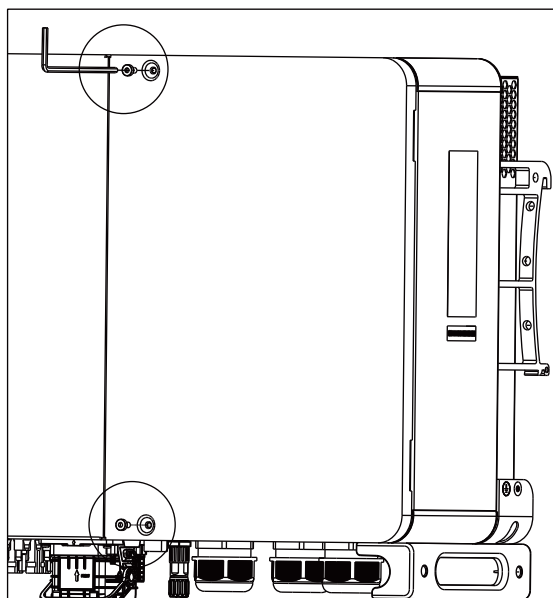

Fig 6.9
1. Open the right cover plate. The position of the cover is shown in Fig 6.9;